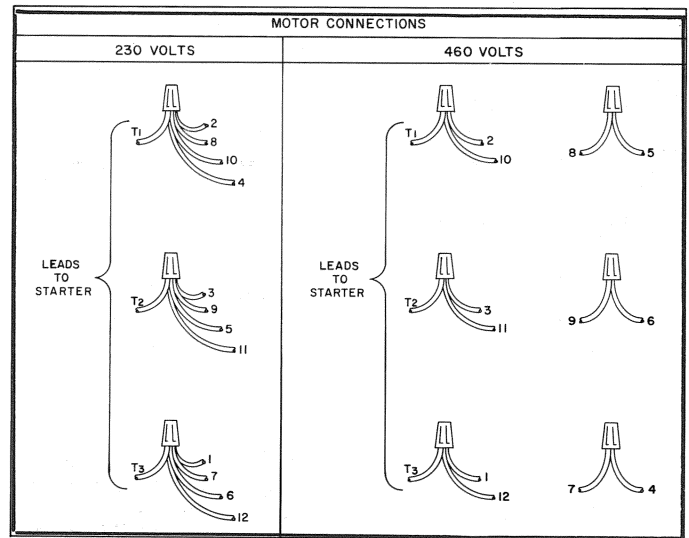

Fig. 7
5. Remove the motor junction box cover to expose motor wires and reconnect motor wires for 460 Volt operation. Fig. 7, illustrates the motor wire connections for 230 Volts and 460 Volts.